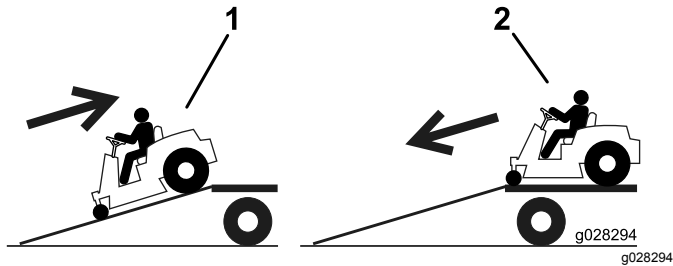

Figure 25
4. Back the machine up the ramp (Figure 25).
2. Drive the machine forward down the ramp (Figure 25).